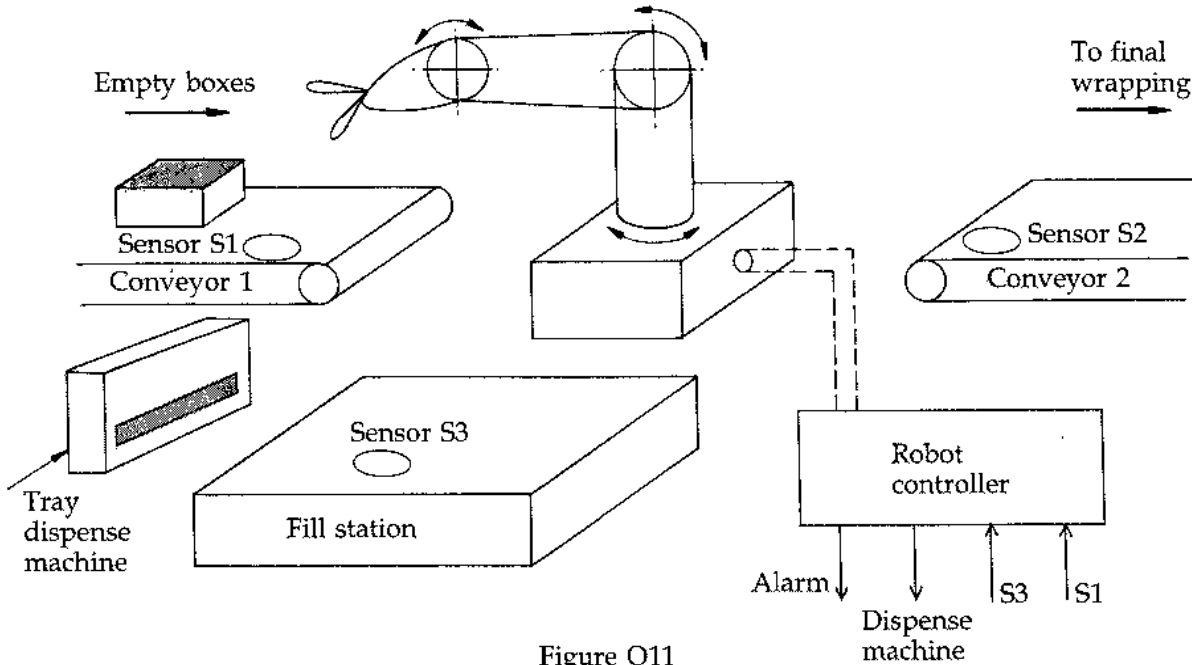

Figure Q11
11. Figure Q11 illustrates a revolute robot working within a robotic workcell which performs the task of filling empty boxes with trays of chocolates to be forwarded for final wrapping.
A sensor *S3* will confirm the dispensing of a tray to the empty box. If, after five seconds, a tray is not dispensed, the robot will then return to its home position as shown in Figure Q11 and signal an "Out of Chocolates" alarm and then stop. An operator will then fill the tray dispenser and restart the system.
| (d) | The conveyors and the fill station of Figure Q11 are basically arranged in a circular manner. The robot used is a revolute geometry. State two alternative robot geometries that would also suit this layout. | 2 |